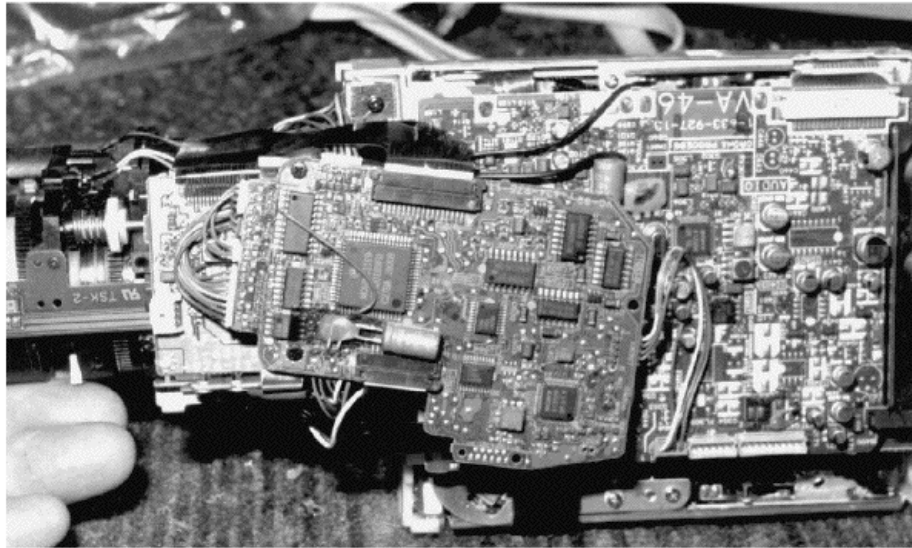

FIGURE 39-4 Remove both sides to align and adjust the camcorder.
Often, both plastic sides of the camcorder must be removed for electrical adjustments (Fig. 39-4). Some adjustment boards are located on one side while others are on the other side and behind the camera lens assembly. Here, boards 1 through 7 are located on the right side of RCA CPR100 camcorder, and the mike and interface circuit boards at the top of the lens assembly. The process circuit board (10) is at the front and underneath the lens assembly.